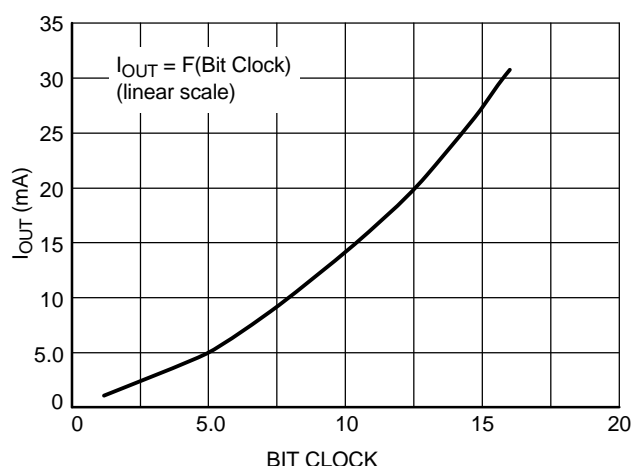

Figure 9. Typical Output Current Slope
The reference current is multiplied by the internal current mirror, associated to the number of pulses as depicted Figure 9, to yield the output load current. Since the reference voltage is based on a temperature compensated Band Gap, a tight tolerance resistor will provide a very accurate load current. The resistor is calculated from the Ohm's law ($R_{bias} = V_{ref} / I_{REF}$) and define the maximum current flowing into the LED when 20 pulses have been counted at the CNTL pin.
- The pulses from the fifth to the twentieth will increase the LED current according to a pseudo logarithmic scale (see Figure 9).